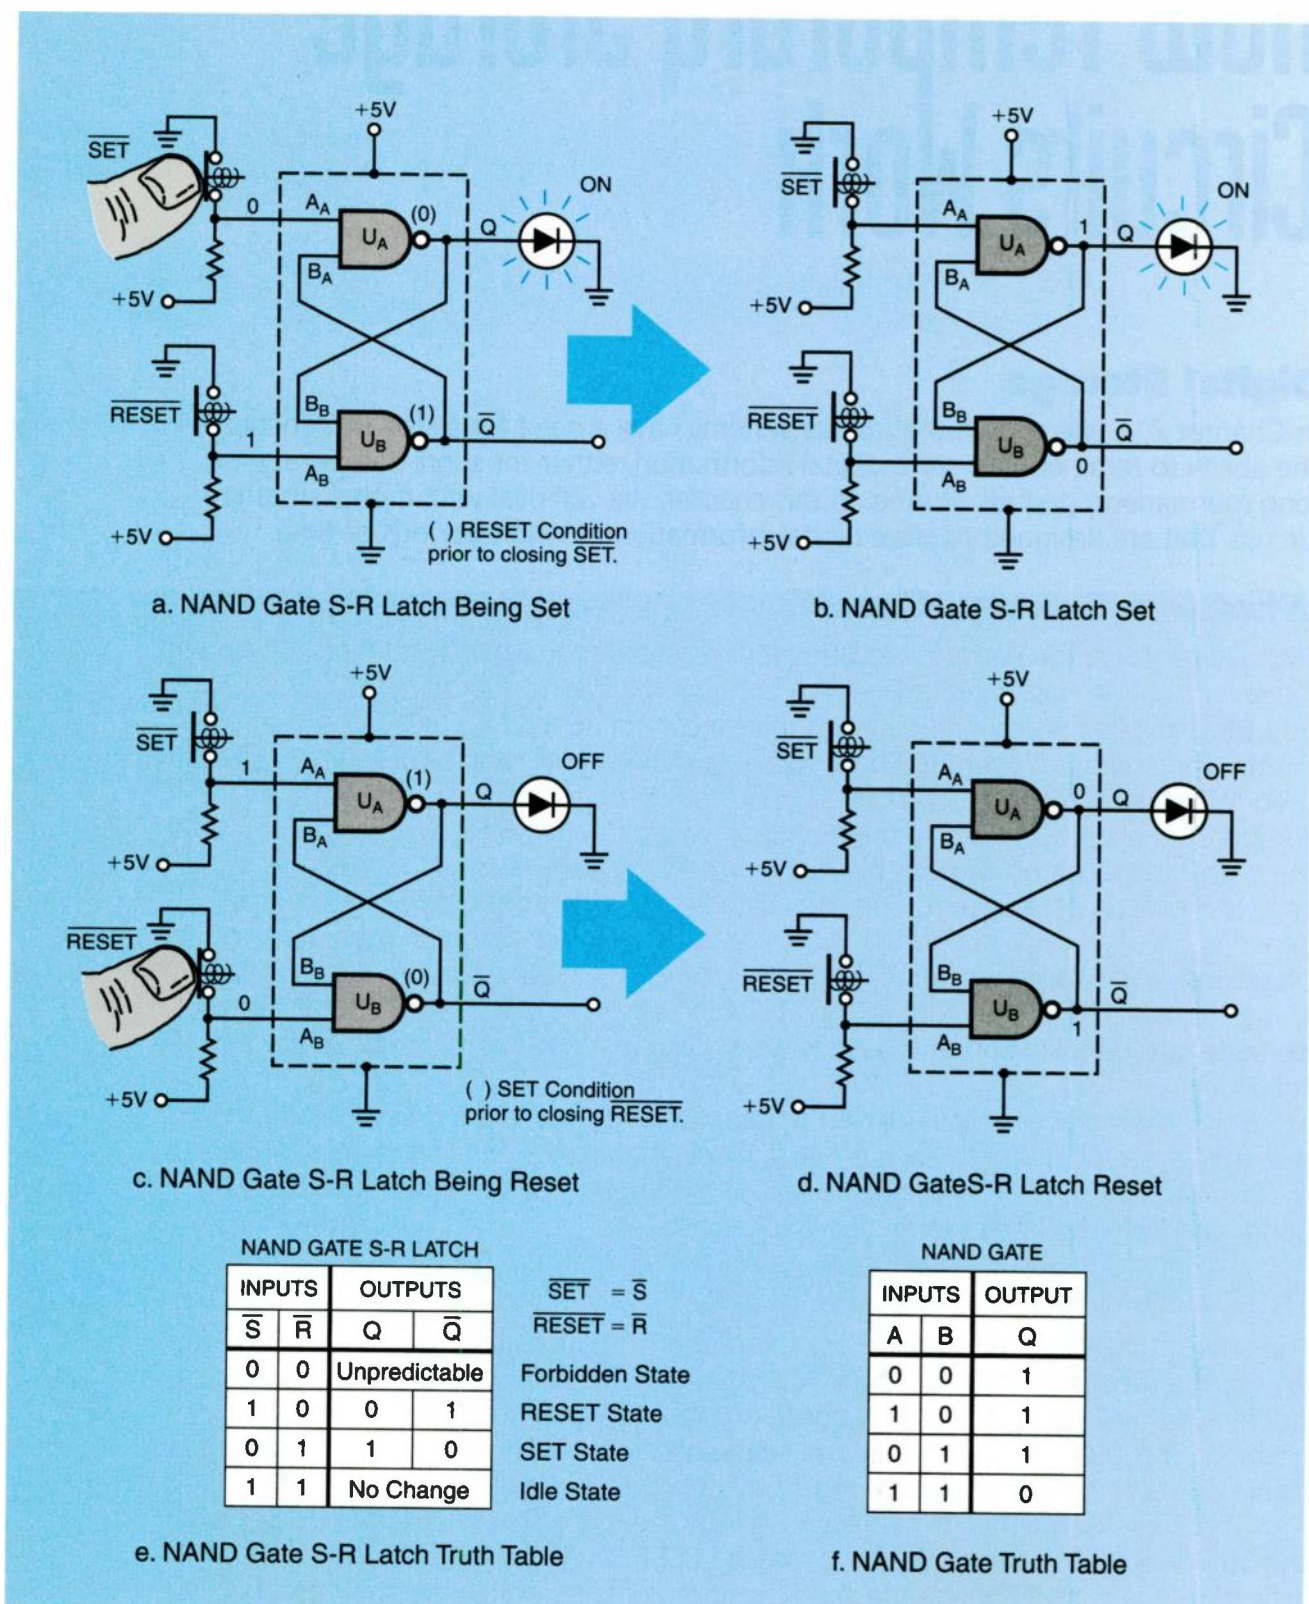
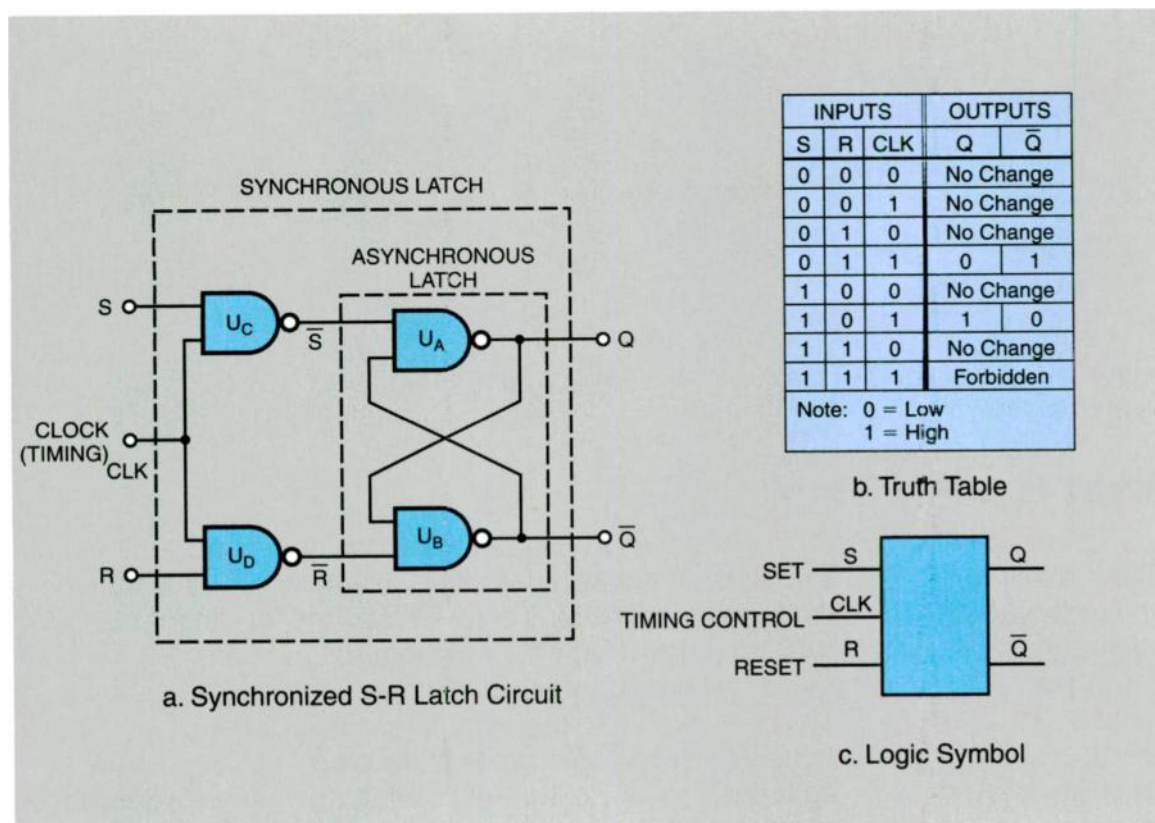
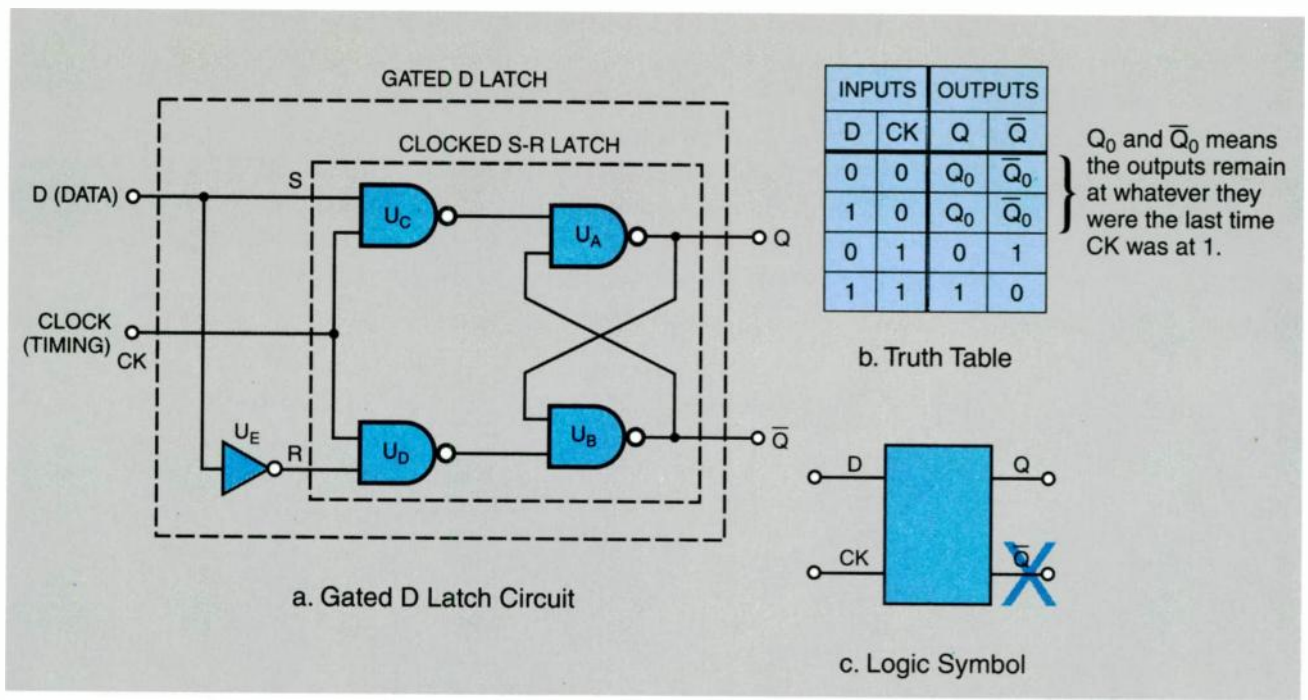

Figure 4-1. A NAND gate S-R latch can be SET or RESET into either of its bistable states.
Figure 4-3. A synchronized S-R latch can be designed by adding two NAND gates to an asynchronous NAND gate S-R latch.
Figure 4-4. A clocked S-R latch can be changed to a gated D latch by connecting an additional inverter.
The digital sequential circuit latch we will discuss first is the NAND gate S-R latch shown in *Figure 4-1*. S means SET; R means RESET. LOWs on the SET or RESET are activating inputs that change the state (position) of the bistable latch. Notice that the NAND S-R latch has two inputs brought out on its left side — one called  $\overline{\text{SET}}$  and the other called  $\overline{\text{RESET}}$ .  $\overline{\text{SET}}$  and  $\overline{\text{RESET}}$  indicate that the inputs will activate the circuit when a 0 (LOW) signal is applied. Each input is normally connected to a 1 (HIGH), but
Notice these conditions about the latch in *Figure 4-1*:
The S-R latch of *Figure 4-1* can be made synchronous by adding two 2-input NAND gates as shown in *Figure 4-3*. The outputs of the NAND gates  $U_C$  and  $U_D$  are connected to the  $\bar{S}$  (SET) and  $\bar{R}$  (RESET) inputs, respectively, of the asynchronous latch. One of the two inputs of  $U_C$  becomes the S (SET) input, and one of the two inputs of  $U_D$  becomes the R (RESET) input, of the synchronous latch. The remaining inputs of  $U_C$  and  $U_D$  are wired together and become the clock (timing) input. All four gates combined are a synchronous latch which is normally called a *clocked flip-flop*.
We can modify the clocked S-R latch to create a gated D latch by adding an inverter as shown in Figure 4-4. *Gated* means it is a synchronous circuit. Notice that the D latch has only one input besides the clock input (CK). The SET input of the clocked S-R latch becomes a D (D for "data") input. It does not have an external RESET input. The RESET input is derived from the SET input of the clocked S-R latch through the inverter. When the D input is a 1 (HIGH) and the CK input is a 1 (HIGH), the D latch will SET so  $Q = 1$  (HIGH). When the D input is a 0 (LOW) and the CK input is a 1 (HIGH), the D latch will RESET so  $Q = 0$  (LOW). We can say that the Q output "follows" the D input when CK is a 1 (HIGH). The clock is normally at the 0 (LOW) level; thus, data is "gated" (allowed to pass) to the output only when the clock is at a 1 (HIGH) level. The logic symbol is shown in Figure 4-4c. Many times only the Q output is provided. Also, notice that the clock input is identified as CK, while in Figure 4-3, it was CLK. Both of these notations are used in digital systems.